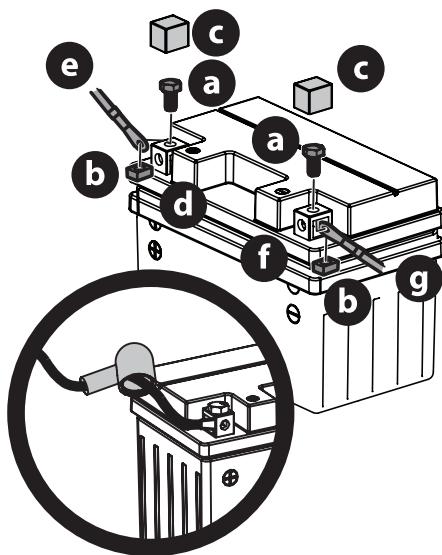

Figure 11
1. Remove the hex screws (a) and square nuts (b) located either on the end of the wiring harness or in the bag with this manual. Retain the hardware for later instructions (Figure 11).
2. Remove the plastic cover (c), if present, from the positive battery terminal (d) and attach the red cable (e) to the positive battery terminal (d) with one of the hex screws (a) and square nuts (b), from Step 1. Use a Philips screw driver (Figure 11).
3. Position the red rubber boot over the positive battery terminal to help protect it from corrosion (Figure 11 inset).
4. Remove the plastic cover (c), if present, from the negative battery terminal (f) and attach the black cable (g) to the negative battery terminal (f) with the remaining hex screw (a) and square nut (b) (Figure 11).